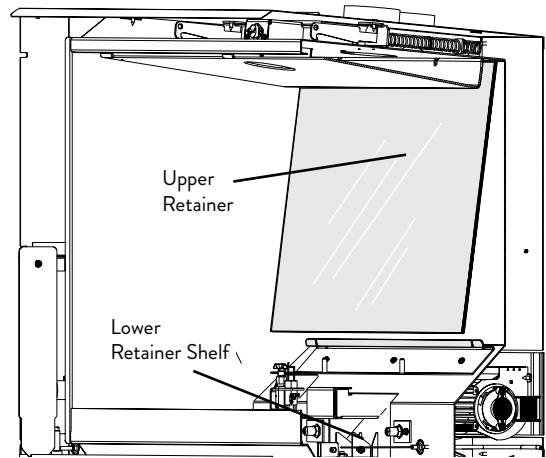

Figure 24.
- Engage the Rear Panel up behind the Upper Retainer rail and set it on the Lower Shelf. Fig. 24.